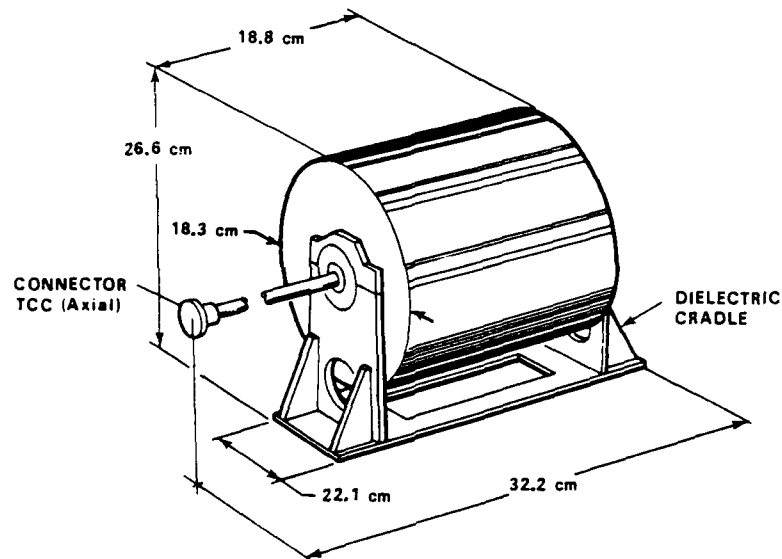

Figure 2. MGL-2(A) B-dot Sensor
2-2.2.3 EG&G MGL-2(A) B-dot Sensor - The EG&G MGL-2(A) is a light-weight portable sensor which measures the time rate of change of a magnetic field in free space. The sensor consists of four evenly spaced gaps forming a cylindrical loop. Cables internally feed gap voltages to a central summing node which drive the output twinax cable. See Figure 2 and Table 3 for further description of this sensor's characteristics.